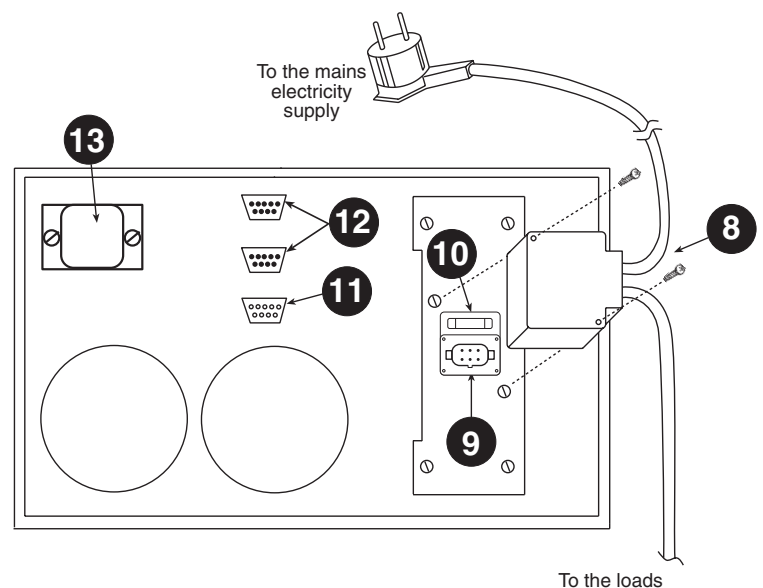

Fig. 2 Electrical Connections
Single Cabinet (fig. 2):
4. Put the Input-Output connector into the plug [9] located on the rear of the UPS, and secure to its case using the screws supplied (see fig. 2).